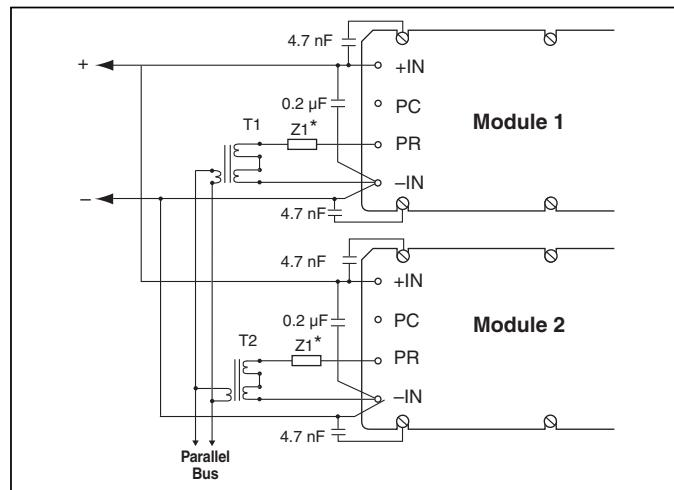

Figure 10 — Transformer-coupled interface.
*Transformer coupled interface.* For paralleling four or more converters a transformer coupled interface is required. See Figure 10.